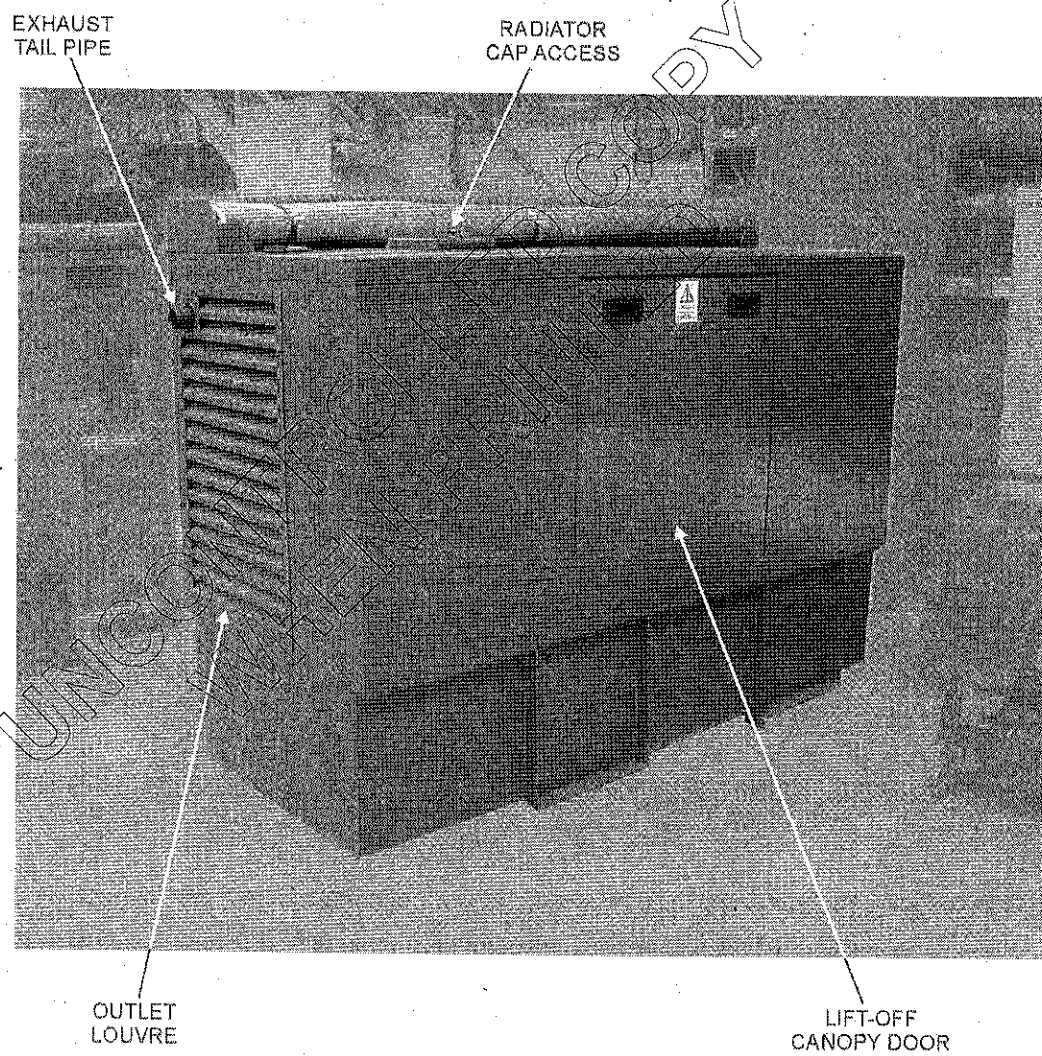

Fig 2. Cormorant 20kVA generator canopy rear view
1. Reference should be made to Fig 1 Control Module and Fig 2 Control Panel throughout the operating instructions. Pre-start checks are as follows: